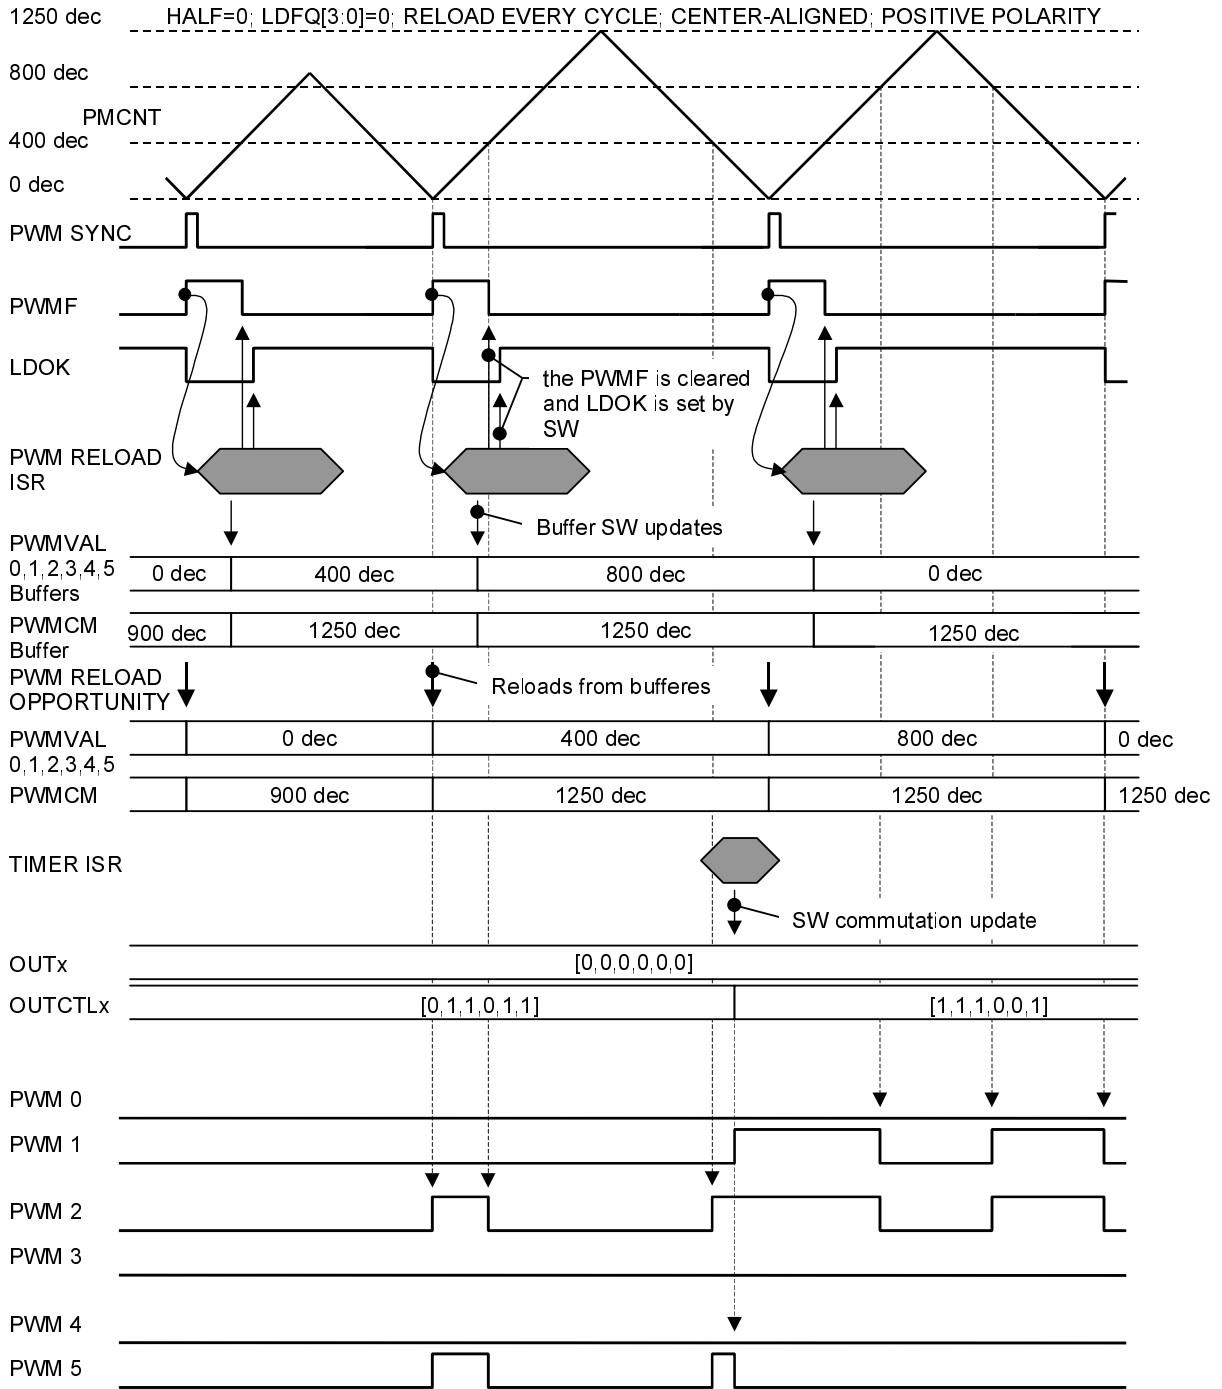

Figure 5-9. Cycle-by-Cycle Modification of PWM Waveform
See Figure 5-9 for signal waveforms.
4. **Performing the commutation.** New values of the SW output control bits OUTCTLx are loaded to corresponding PWM module registers (see Figure 5-9).